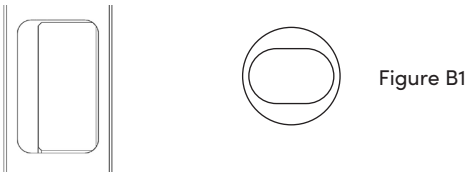

Figure B1
- If there is friction against the right side, adjust the opening of the Alignment Bushing to the right. Refer to Figure B1.